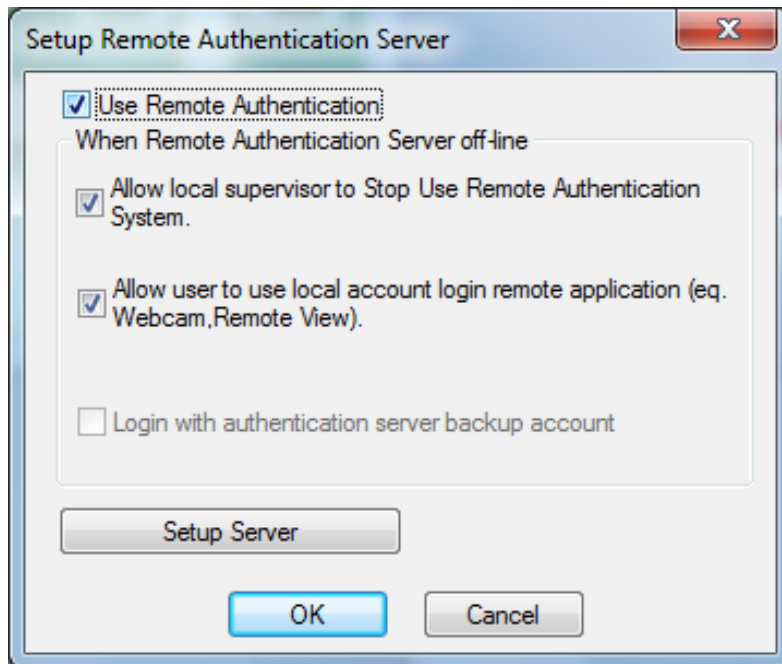

Figure 11-26
2. Click the **Set Up Server** button in Figure 11-26. This dialog box appears.